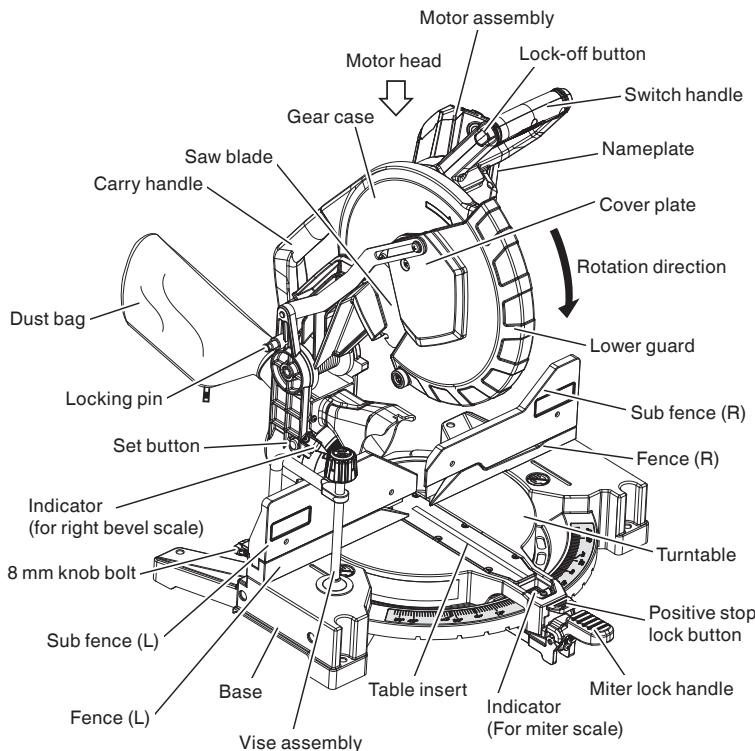
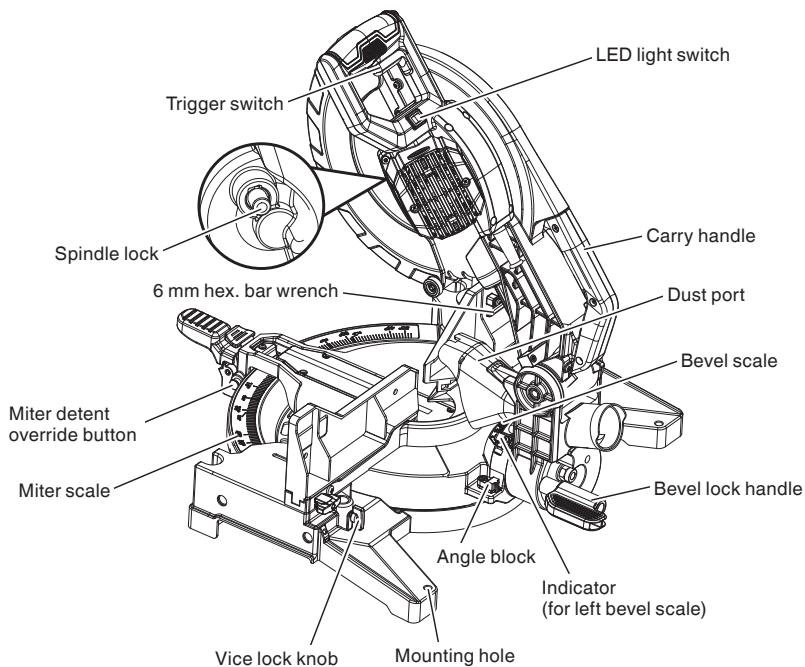

Fig. 1
Fig. 2
Attach the sub fence (L), dust bag and vise assembly as indicated in Fig. 1 and Fig. 2.
(Attach the vise assembly as shown in Fig. 1, Fig. 2 and Fig. 18.)
After installing the saw blade, confirm that the spindle lock has been returned to the released position before using the power tool (see Fig. 2).
**⚠ WARNING: Please be aware of the reaction of the Motor Head (Fig. 1) when the brake is activated. Braking causes the Motor Head to jerk downward and the user should be prepared for this reaction, especially when the trigger switch is released before the blade is completely down. Failure to be familiar with, and prepared for, the operational characteristics of the tool may cause serious injury.**